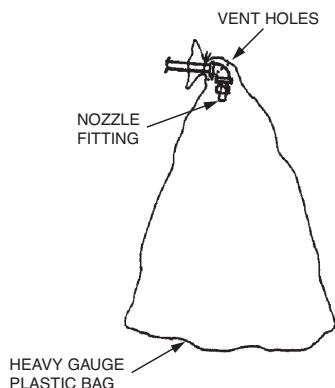
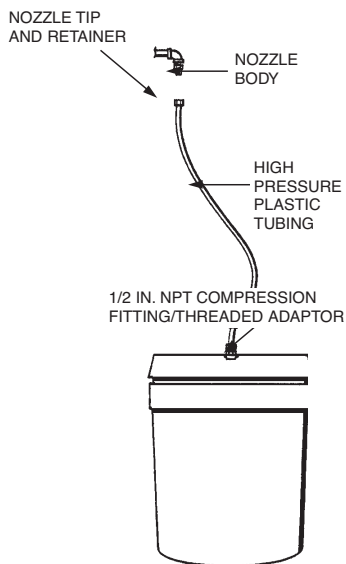

FIGURE 2
FIGURE 3
- 7. To perform the flushing procedure, either secure heavy-duty plastic bags to each nozzle (See Figure 2) or remove each nozzle tip and strainer and attach plastic tubing. See Figure 3. If using plastic bags, secure bags and proceed to Step 9. If using plastic tubing, proceed to Step 8.